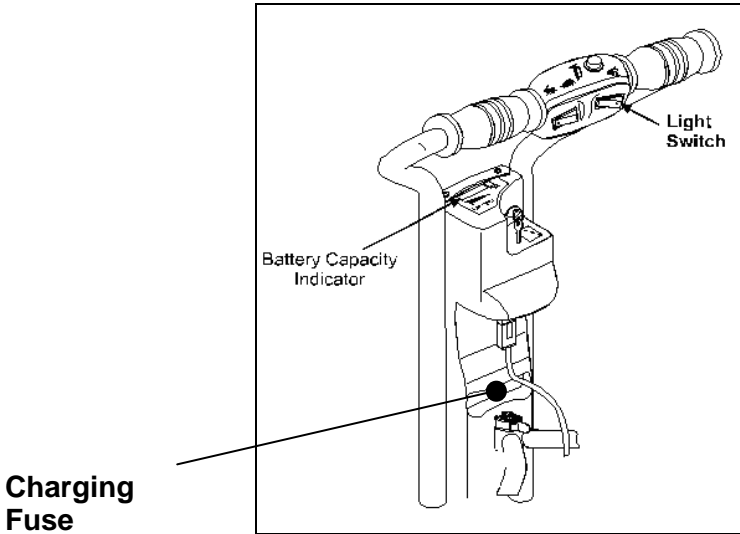

Figure 16
3.7 **Lights Operating (See Fig. 16)**